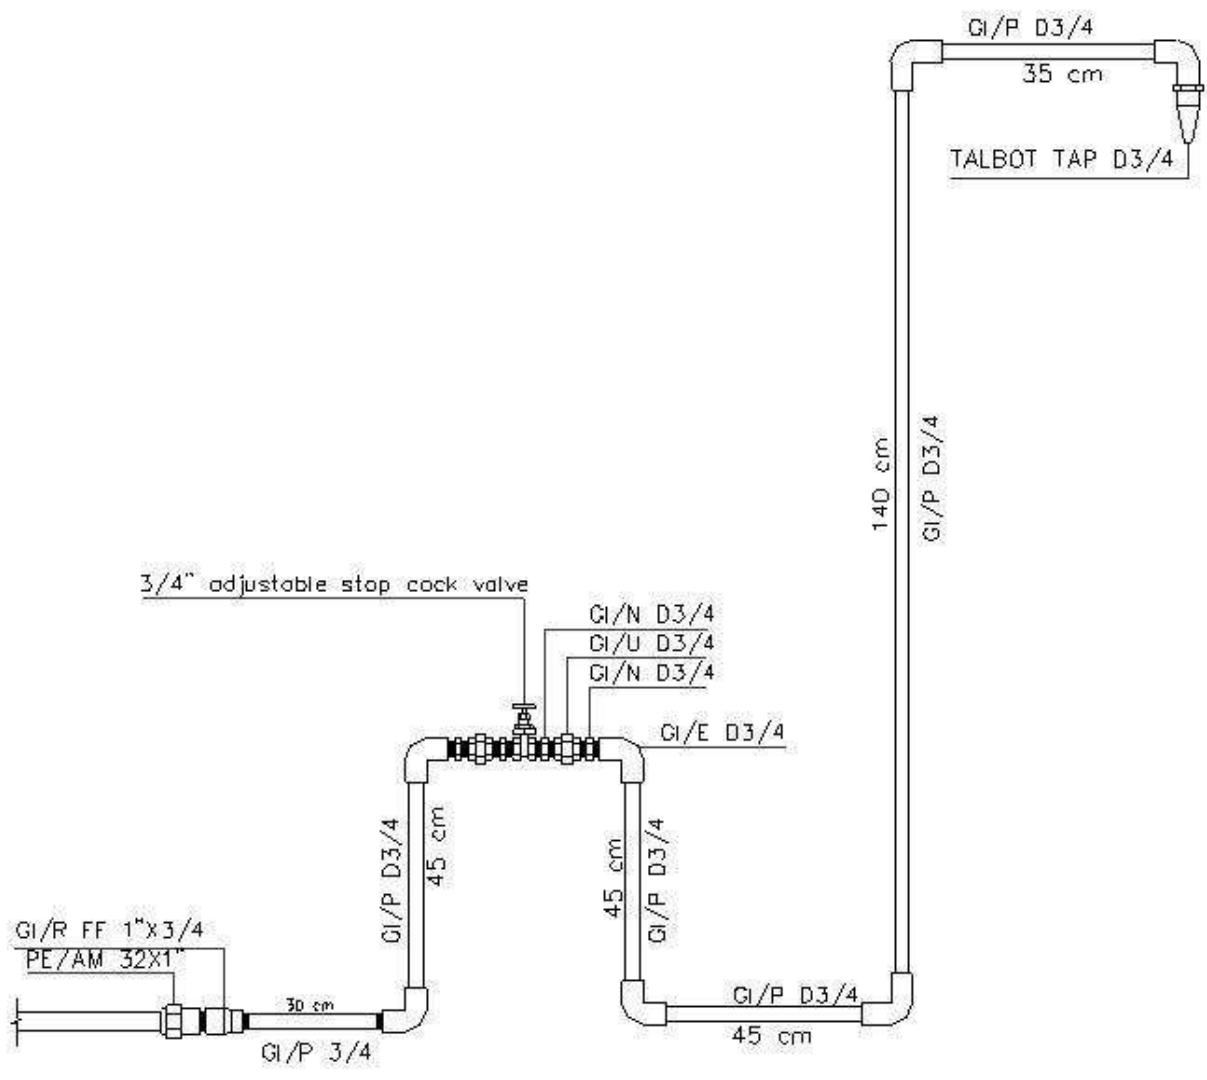

Figure 13C Tapstand
- Use of galvanized pipes with tap (s) and valve (see figure 13C and 14C),